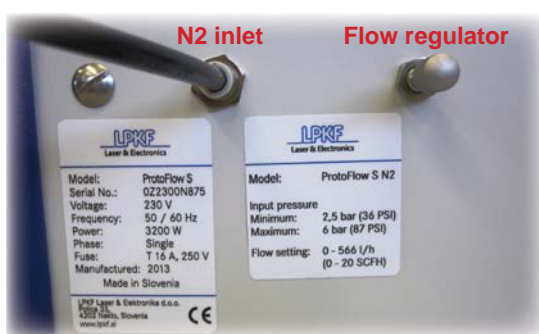

Figure 1: N2 inlet
1. Connect the 6 mm diameter pneumatic hose to the inlet port at the back of the device (figure 1).